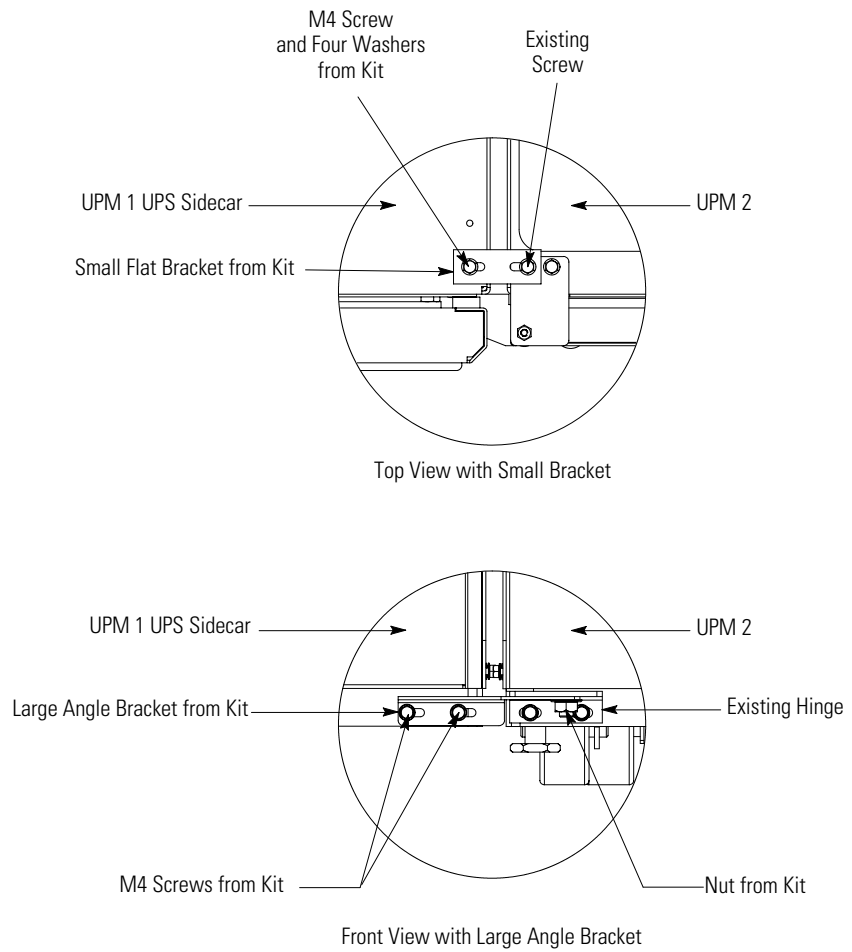

Figure 2-3. UPM 1 to UPM 2 Joining Brackets
15. Locate the small flat bracket, four washers, and M4 screw from the field kit. Align the holes in the small flat bracket over the hole in the top of the UPS Sidecar attached to UPM 1 and the door hinge screw hole on UPM 2. Use the four washers between the bracket and the top of the UPS Sidecar to match the thickness of hinge on UPM 2. Secure the bracket to the UPS Sidecar using the M4 screw, and to the hinge on UPM 2 using the screw removed in Step 14 (see Figure 2-3).
16. Locate the large angle bracket, M4 screws, and large nut from the field kit. Place one end of the bracket over the bolt on the bottom side of the lower left-hand hinge on UPM 2, and loosely secure the bracket to the hinge with the large nut (see Figure 2-3).
17. Align the holes in the other end of the bracket with the holes in the bottom right-hand side of the UPS Sidecar attached to UPM 1 (see Figure 2-3). Secure the bracket with M4 screws from the field kit.